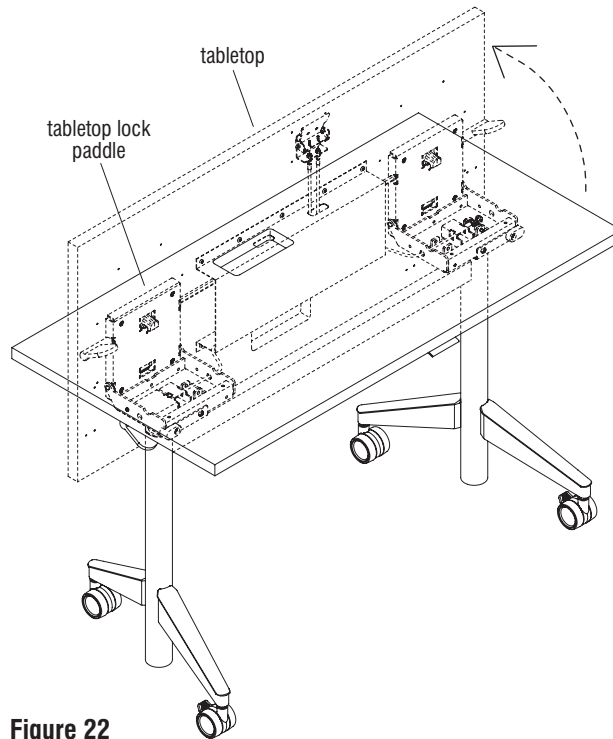

Figure 22
53. Lift one tabletop lock paddle and open the table to the nesting position (Figure 22).